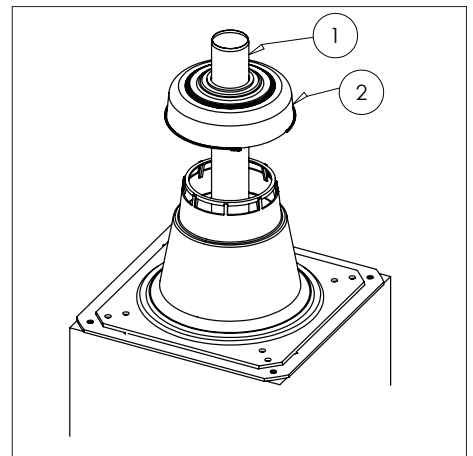

Figure 10, Installing Termination Pieces
15. Install the Termination Pipe (see 1, **Fig.10**). Assemble the storm collar portion of the Flex Chimney Flashing (see 2, **Fig.10**).